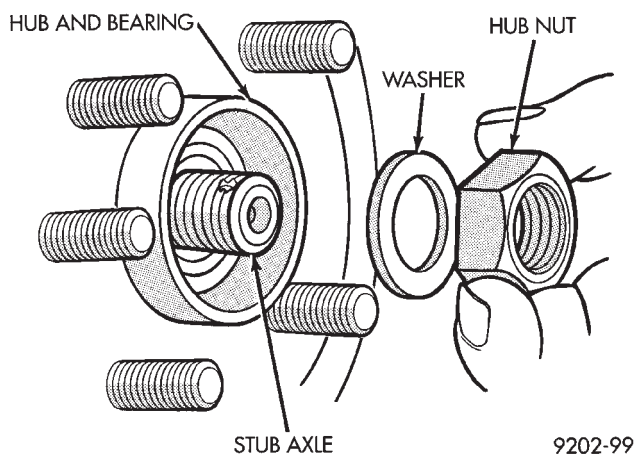

Fig. 23 Install Washer and Hub Nut
(13) Clean all foreign matter from the threads of the outer C/V joint stub axle. Install hub nut onto threads of stub axle and tighten nut. (Fig. 23).